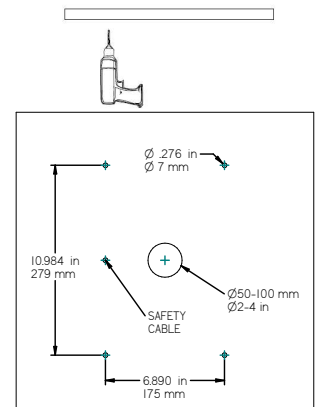

FIGURE 2
- Drill holes or utilize self-drilling screws into ceiling in the pattern shown (you may use the fixture itself as a pattern for the mounting holes) (Fig. 2)